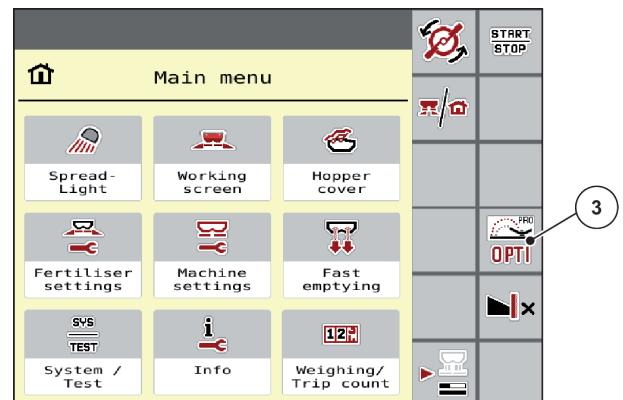

Fig. 15: OptiPoint activated in the main menu
- ▶ Press the “OPTI” function key to activate the headland mode. Or can be activated in the main menu, see Fig. 15 OptiPoint activated in the main menu.